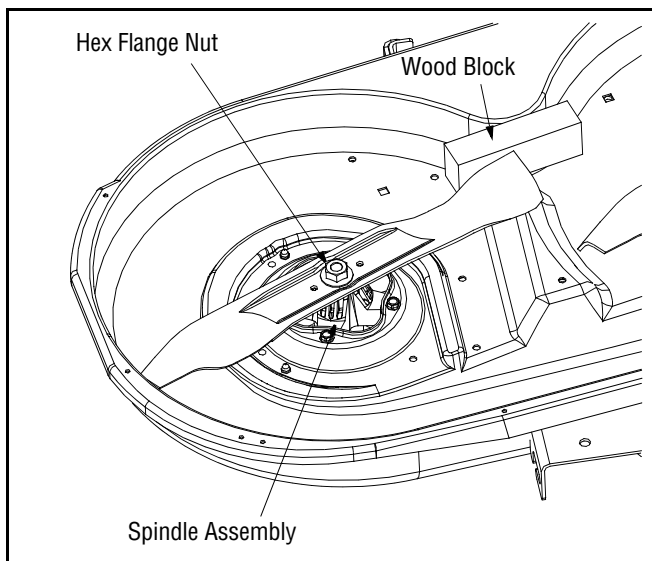

Figure 22
- Place a block of wood between the center deck housing baffle and the cutting blade to act as a stabilizer. See Figure 22.
- Use a 15/16" wrench to remove the hex flange nut that secures the blade to the spindle assembly. See Figure 22.